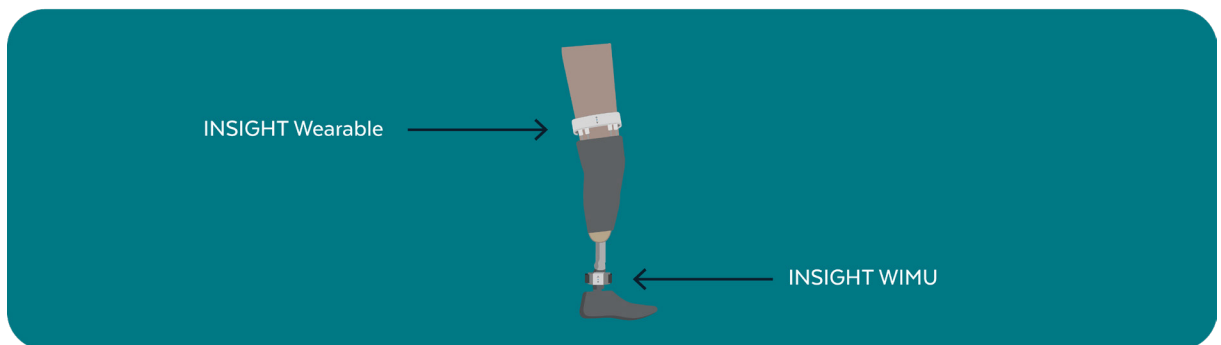

Figure 8: Example of INSIGHT Wearable and WIMU position.
- At times, it may be necessary for the prosthetist to swap the placement of the INSIGHT Wearable and WIMU. (Figure 8). In this will happen when: